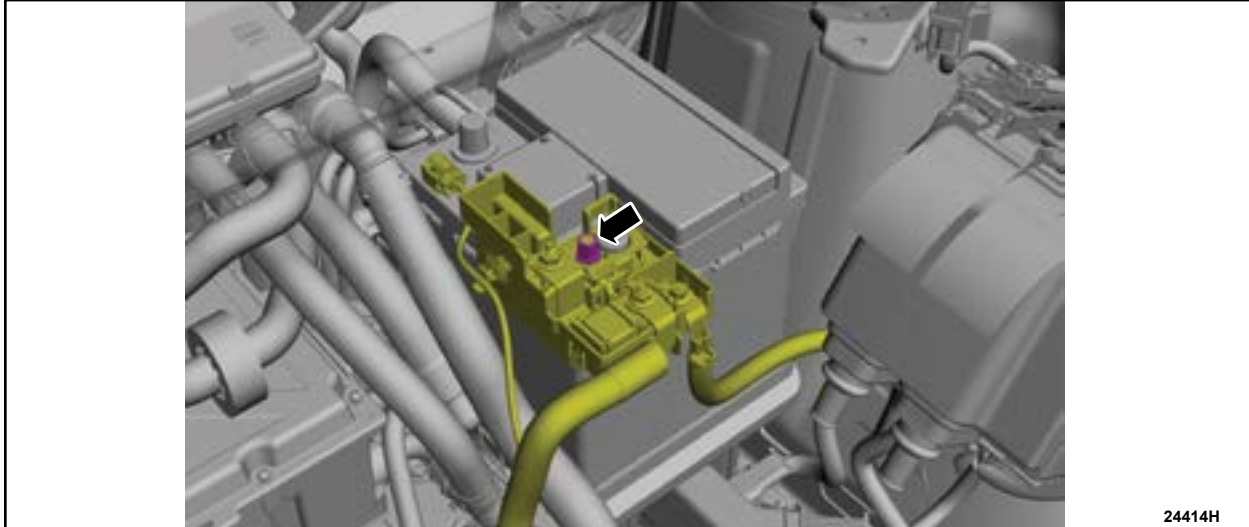

FIGURE 7
16. Loosen, but do not remove the positive battery cable terminal nut. See Figure 7.